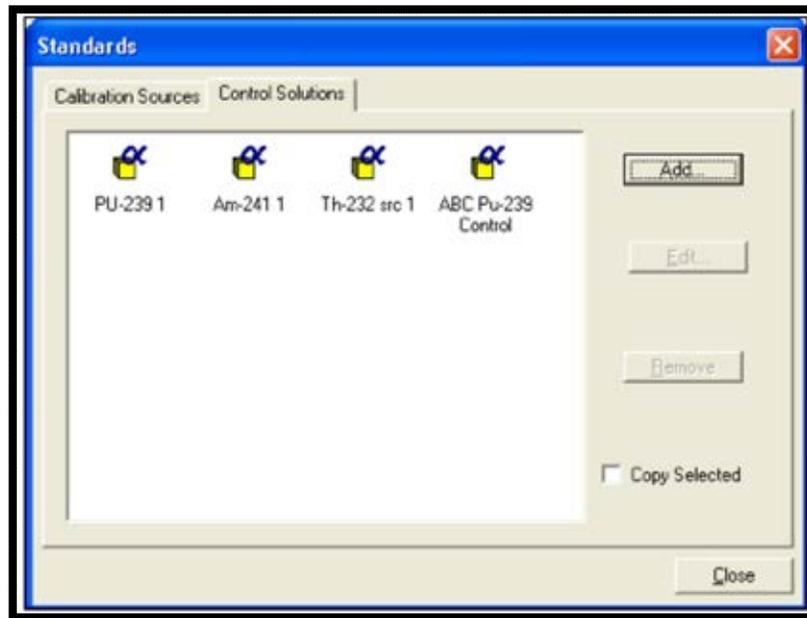

Figure 76. New Control Solution Added
- 7) When all the nuclides in the standard source have been added, click **OK** to return to the Standards dialog (Figure 76), then click **Close** to return to the main AlphaVision screen.